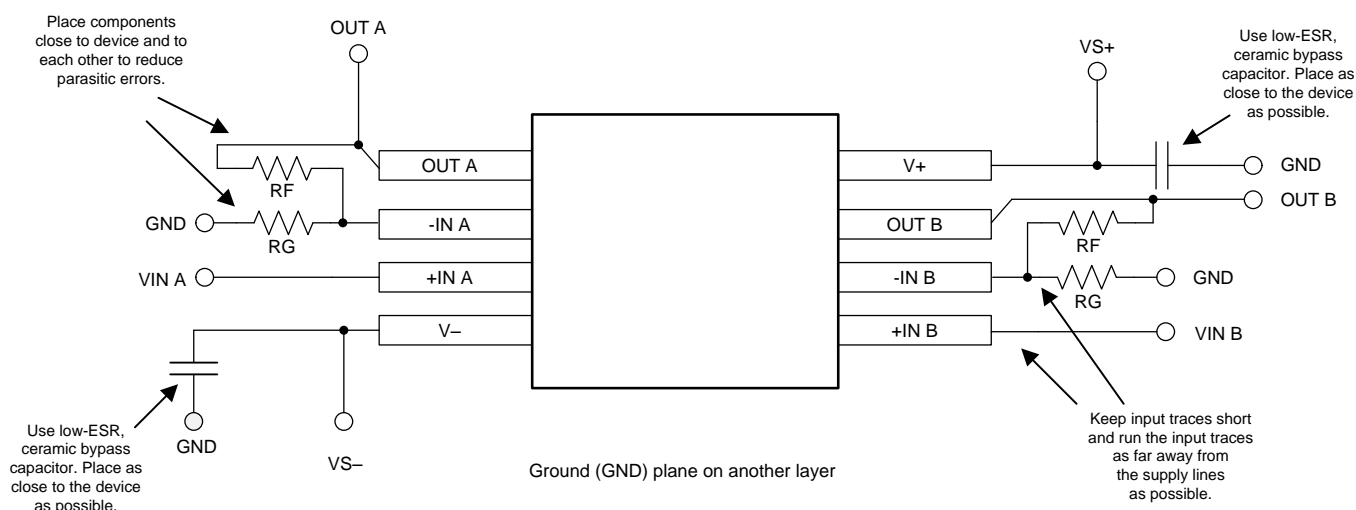

Figure 57. Layout Example
- Place the external components as close as possible to the device. As illustrated in Figure 57, keeping RF and RG close to the inverting input minimizes parasitic capacitance.